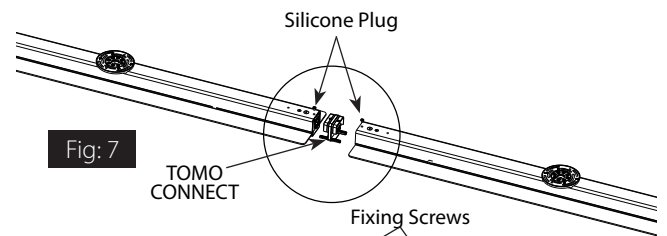
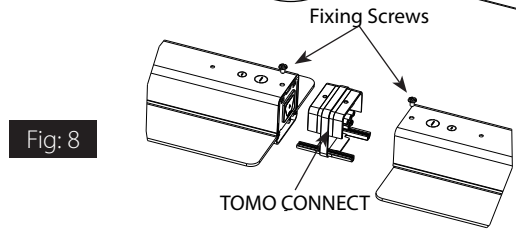
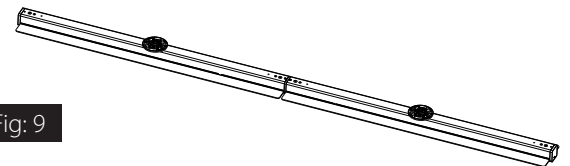

Fig. 7
Fig. 8
Fig. 9
1. For continuous run, remove fixture **End Caps** (Fig. 7). Pop out **Silicone Plugs**, push Fixtures together using **TOMO CONNECT** (ordered separately) between fixtures for quick connect installation (Fig. 8). **TOMO CONNECT** is provided with (2) **Fixing Screws**. Install **Fixing Screws** in **Silicone Plug** points. Only (1) one **Fixture** needs to be electrically hard wired from above (Fig. 9).